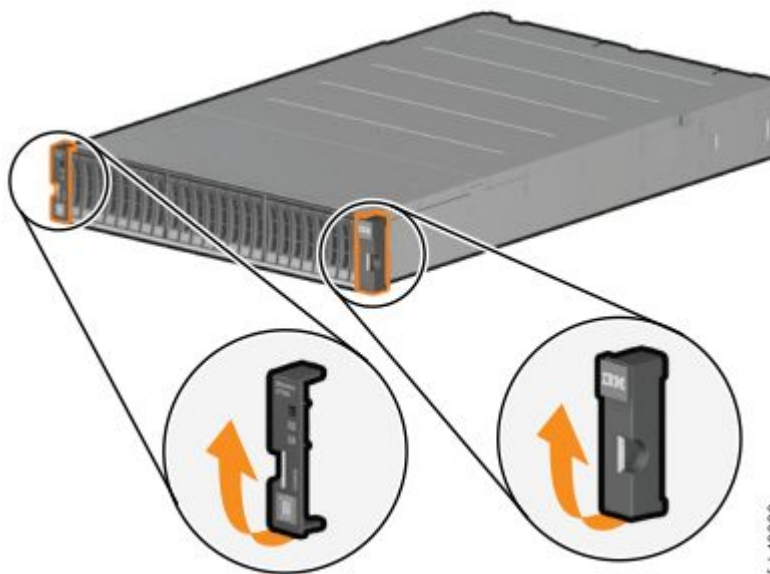

Figure 17. Removing enclosure end caps
Step 1. On either side of the drive assemblies, remove the enclosure end caps by grasping the handle and pulling the bottom of the end cap free, then clearing the tab on the top of the enclosure. (See Figure 17 “Removing enclosure end caps” on page 19.)